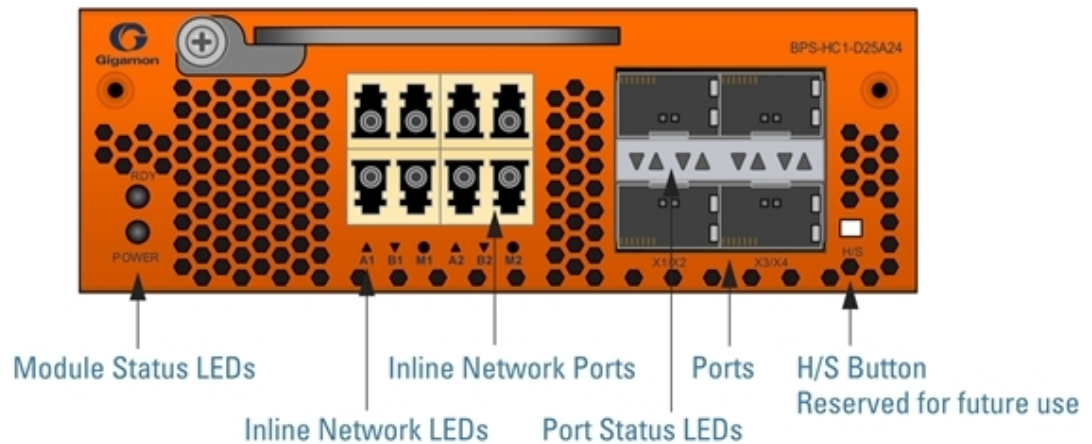

Figure 5: Bypass Combo Module BPS-HC1-D25A24
- Bypass Combo Module with two SX/SR (50/125µm multimode) inline network port pairs and four regular SFP+ and SFP+ copper port cages (BPS-HC1-D25A24) (Figure 5: Bypass Combo Module BPS-HC1-D25A24)